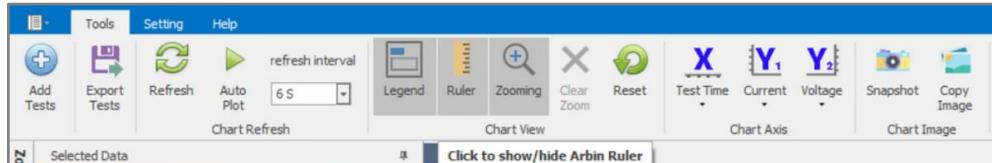

Figure 11-33 Select the Arbin Ruler by Clicking the Ruler Icon in the Top Menu of the Toolbar
- 1) To view the X/Y coordinates of any data point, you can click the Arbin Ruler icon in the top menu bar, as shown in Figure 11-33.